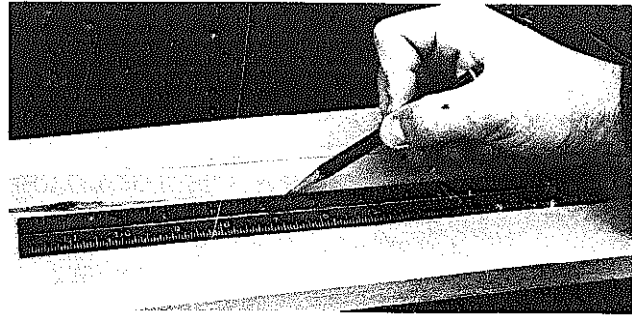

Fig. 4-30 Using the combination square as a straightedge
2. Place the blade on a surface. Scribe a line along the edge as shown in figure 4-30.